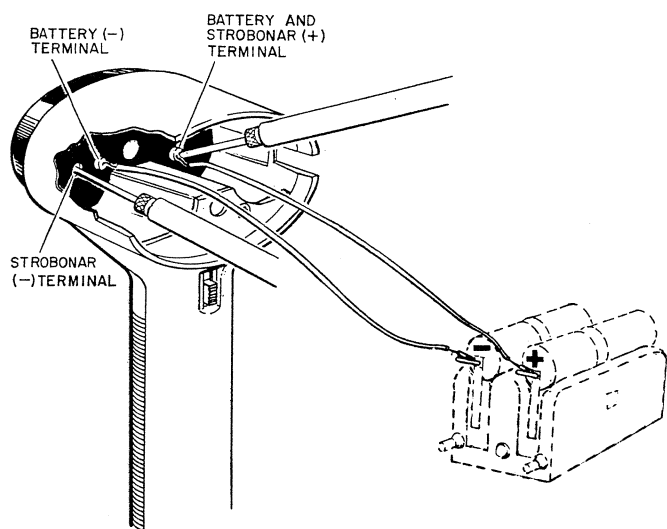

Figure 5-2. Anode Voltage Checks
2. Connect "D" cells (Catalog #318) to battery contacts as shown in Figure 5-2.
4. Connect voltmeter as shown in Figure 5-2.